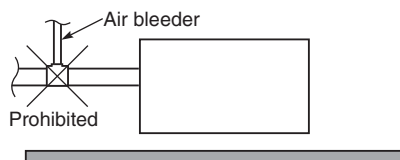

Fig. 1-99
- Do not install an air bleeder as this may cause water to spray from the drain pipe outlet. (Fig. 1-99)